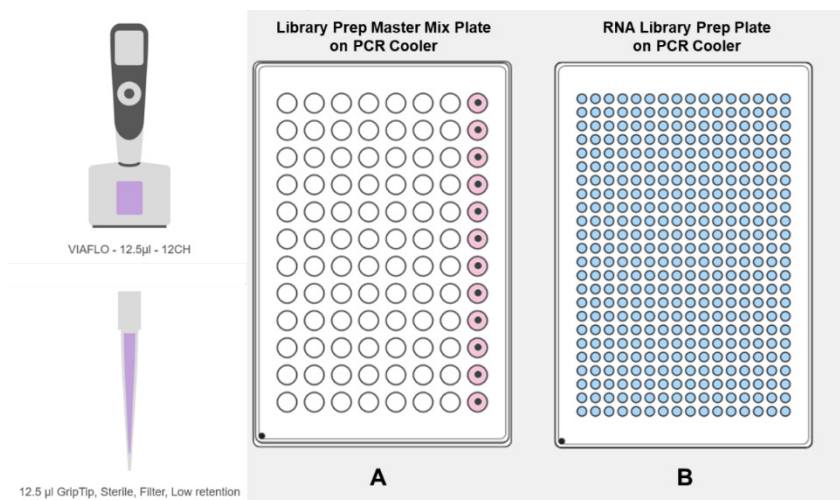

Figure 29: RO384_13R_Rpool.
1. Place the cold 96-well and 384-well PCR cooling blocks onto the ASSIST PLUS deck at Positions A and B, respectively (Figure 29).
2. Place the Library Prep Master Mix Plate on the 96-well PCR cooling block in Position A and place the RNA Library Prep plate on the 384-well PCR cooling block in Position B with position A1 of both plates in the bottom left corner, as indicated by the dot in Figure 29.